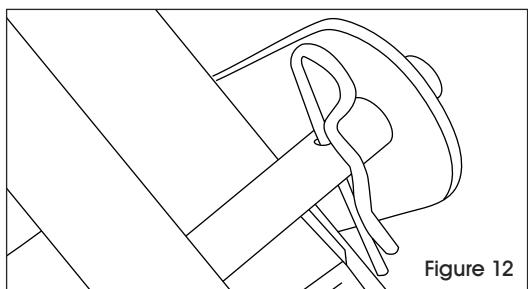

Figure 12
16. Insert cotter pin (or padlock, not included) to secure lock bar. (See Figure 12)